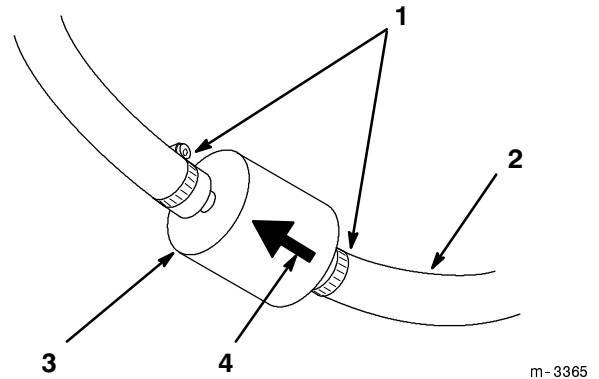

Figure 41
- Squeeze the ends of the hose clamps together and slide them away from the filter (Fig. 41).